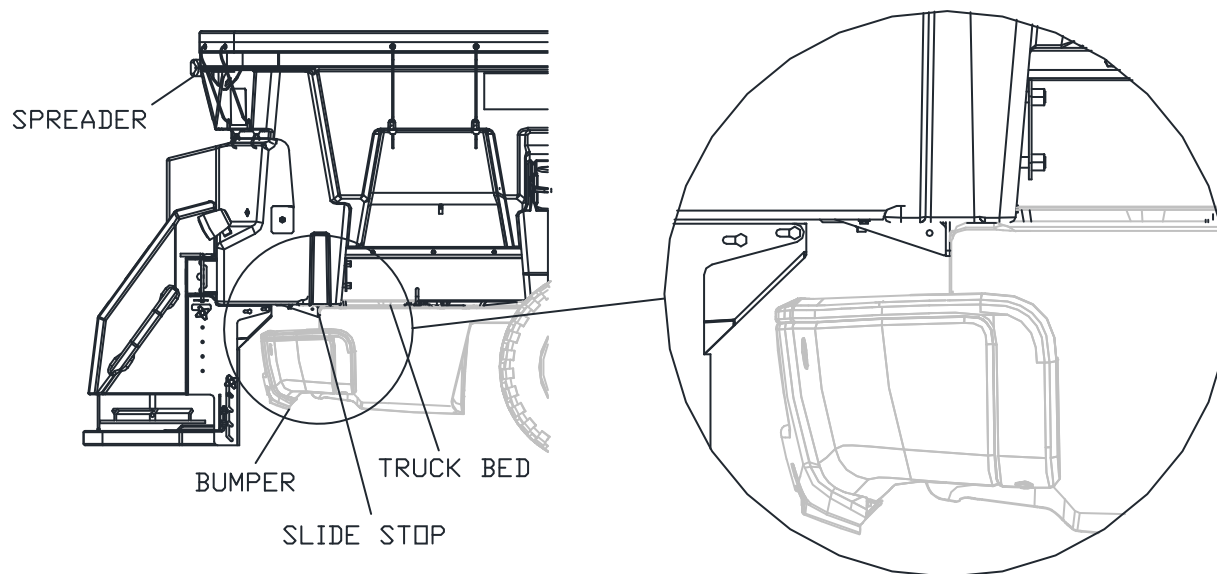

Figure 7. Slide Stop Installation
1. Slide spreader toward cab until Slide Stop hits truck bed (See Figure 7).